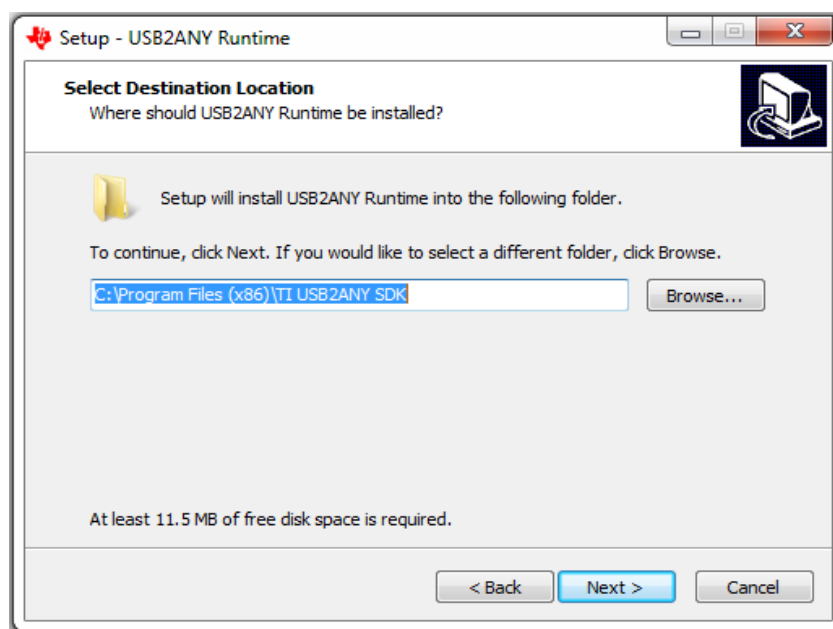

Figure 1-11 Destination Directory
10. Set the destination directories for the USB2ANY installation and press the **Next»** button as shown in Fig.1-11.